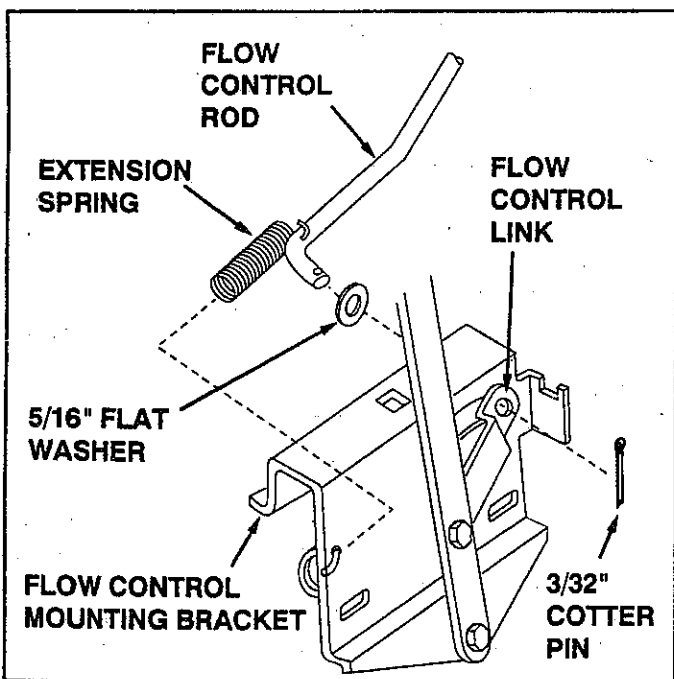

FIGURE 11
17. Place a 5/16" flat washer over the end of flow control rod, and insert end of rod through slot in flow control mount bracket and through the hole in flow control link. Secure with a 3/32" x 3/4" cotter pin. See figure 11.